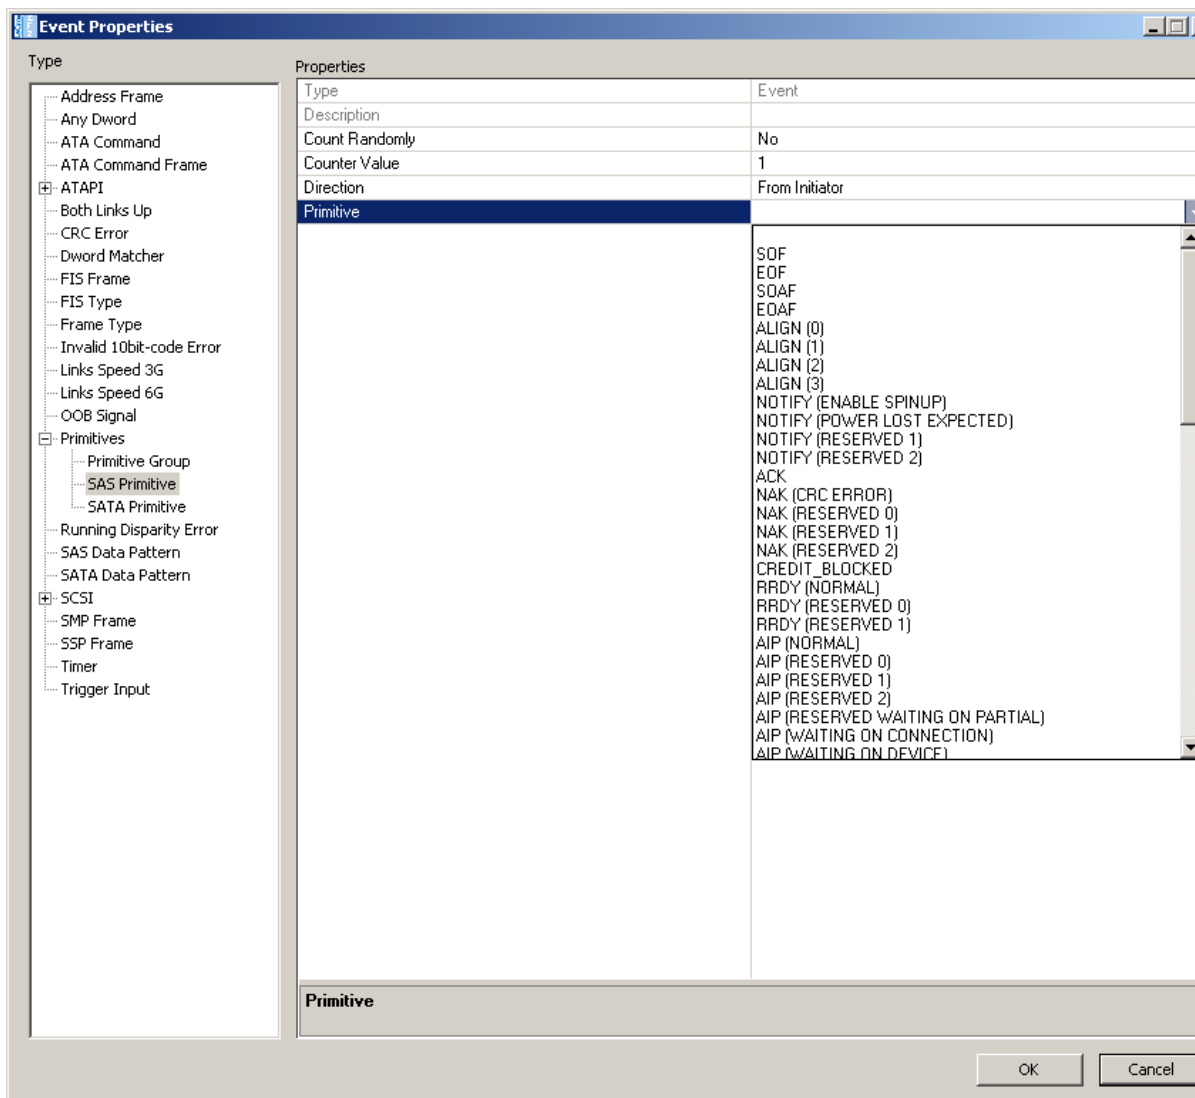

Figure 4.19: Example 1: Event Drop-Down List
7. Still in the middle column of the Event Properties dialog box, click **Primitive** to display a drop-down menu that lets you choose the type of primitive for which to substitute for RRDY (Normal) (see Figure 4.19 on page 253). Choose **ERROR**.